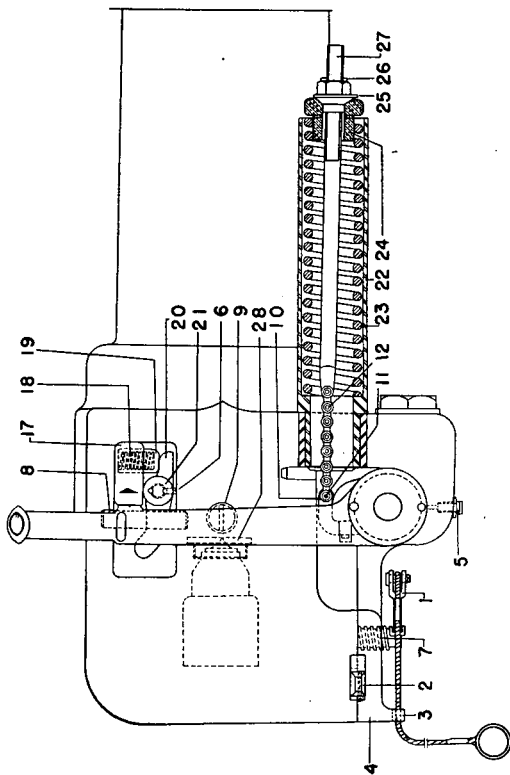
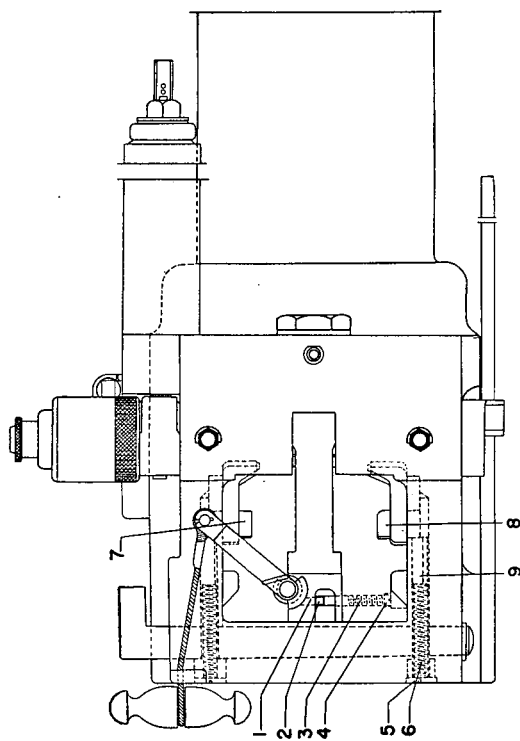
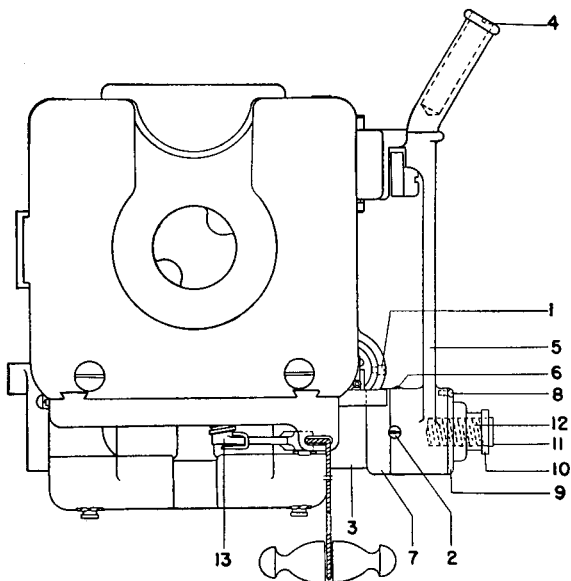
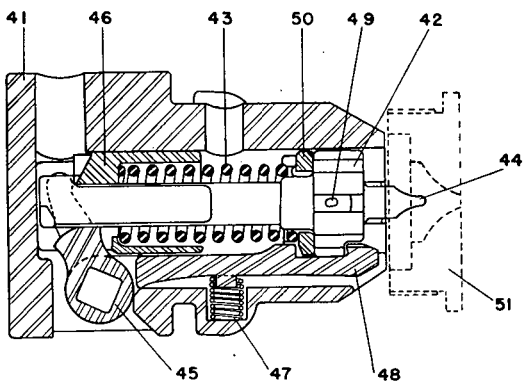

FIGURE 6.—Breech mechanism, 3-inch anti-aircraft gun M3, right side elevation.
FIGURE 7.—Breech mechanism, 3-inch antiaircraft gun M3, bottom elevation.
FIGURE 8.—Breech mechanism, 3-inch anti-aircraft gun M3, rear elevation.
FIGURE 9.—Firing mechanism, 3-inch anti-aircraft gun M3, horizontal cross section.
■ 42. LATCH PLATE (fig. 6).—Unscrew the latch bolt set screw (6) and unscrew the latch bolt (21). This will release the latch (20) and spring (18) in spring cup (19) from the latch plate.
■ 43. BREECHBLOCK.—*a.* Remove one of the cap screws from the breech lamp bracket, loosen the other cap screw, and swing the lamp assembly clear of the breech recess. Unscrew plugs (5) (fig. 7) and remove extractor springs and plungers (6) and (9). Screw an eyebolt in the top of the breechblock for use in lifting the block. Open the breech and insert a pin or punch in the opening in the spring piston rod (27) (fig. 6) at the rear face of the closing spring cylinder (22), thereby releasing the tension of the spring on the breechblock. (See note below.) Screw in the clutch (11) (fig. 8) and close the breech. Remove the cotter pin which retains the chain terminal and unhook the chain from the operating shaft.
b. Draw the trigger shaft detent (1) (fig. 7) to the left by the handle (2) and draw out the trigger shaft (13) (fig. 8). Remove the firing case (41) (fig. 9) by turning until the
locating lugs are disengaged. Remove the split pin from the lock plate key (2) (fig. 6) and drive out the key. Remove the lock plate (4).
c. Rotate the operating shaft (3) (fig. 8) as in opening the breech. When the arm of the operating shaft turns out of the breechblock, draw the shaft to the rear out of the breech ring. It may be necessary to raise or lower the breechblock slightly while removing the shaft. Lower the breechblock sufficiently to remove the extractors.
d. Raise and remove the breechblock from the breech ring. Remove the detent spring (3) (fig. 7) by first removing screw (4) holding spring. The detent (1) may then be removed.
e. The bushing (28) (fig. 6), which is screwed very tightly in the front face of the breechblock, is assembled during manufacture and will not be removed by the using service personnel.
NOTE.—If it is desired to disassemble the closing spring cylinder mechanism, do not insert pin in the spring piston rod. With breech closed unscrew piston rod nut (25) (fig. 6) and withdraw spring piston (24). The closing spring may then be removed from the front and the spring piston rod from the rear.
■ 44. FIRING CASE.—*a.* With the firing case assembly withdrawn from the breechblock as explained in paragraph 43, insert a screw driver in small hole in the firing case and push the trigger fork (45) (fig. 9) from the case.
b. Remove the firing pin holder assembly (42) by pressing the sear (48) against the spring (47) with a finger at the front of the case, and by pushing the entire firing pin holder assembly from the rear with the fingers of the other hand.
c. Remove the sear (48) and the sear spring (47).
■ 45. FIRING PIN HOLDER ASSEMBLY.—*a.* Separate the holder (42) (fig. 9) from the sleeve (46) by pressing inward on the end of the firing pin holder, thus disengaging the irregularly formed end of the firing pin holder from the beveled surface on the inside of the sleeve. The sleeve should then slip off under the action of the spring.
c. Remove spring stop (50) and the cotter pin (49) from the holder (42), and unscrew the firing pin (44) from the firing pin holder (42).
■ 46. OPERATING HANDLE AND OPERATING SHAFT.—Unscrew the clutch lock (10) (fig. 8) to disengage the clutch from the shaft, and remove retaining ring lock screw (2). Unscrew the retaining ring (7) from the operating shaft (3) and remove the operating handle assembly. Unscrew retaining ring from the operating handle hub. Remove the clutch lock bearing lock screw (8) and unscrew the bearing from the handle hub. The method of disassembling the remaining parts needs no explanation.
■ 47. FIRING PIN HOLDER ASSEMBLY.—*a.* Insert the firing pin (44) (fig. 9) into the firing pin holder (42) until it fits tightly against the shoulder. Insert the cotter pin (49) through the holder and spread the ends to clear the firing case bore. Assemble spring stop (50) and firing spring (43) on the firing pin holder (42). Place the firing pin holder sleeve (46) over the firing spring and firing pin holder, and force it against the spring until the beveled surface on the
■ 48. **FIRING CASE.**—*a.* Turn the spring stop (50) (fig. 9) on the firing pin holder (42) until the flat edges of the fork are in a plane parallel to that of the flat surface at the forward edge of the firing pin holder. Failure to do this will make it almost impossible for the forward end of the sear (48) to engage the firing pin holder (42) as shown in the diagram of the assembled mechanism.
b. Insert the sear spring (47) into its seat inside the firing case (41). Insert the sear (48) into the case, placing the stud on the bottom of the sear into the sear spring (47). With the finger hold the rear end of the sear (48) up, and with the other hand insert the firing pin holder assembly about halfway into the case. Then press the rear end of the sear down and push the firing pin holder assembly fully into the case.
c. Insert the trigger fork (45) into the opening in the side of the case, with the rounded projections on the fork ends toward the front of the case, in which position the ends rest against the rear face of the firing pin holder sleeve (46). Push the trigger fork in as far as it will go, slapping it with the palm of the hand if necessary.
■ 49. **BREECHBLOCK.**—*a.* Assemble the trigger shaft detent (1) (fig. 7) into the detent hole in the lower left-hand side of the block. As the detent passes into the slot in the bottom of the block, slip the detent handle (2) over the small diameter of the detent up to the shoulder. Place the detent spring (3) in the hole and insert screw (4).
■ 50. OPERATING HANDLE.—*a.* The grip position is made hollow to reduce its weight, the hole in the end being closed by screwing in the handle plug (4) (fig. 8). The oil cup (6) is pressed into the hub of the handle. These parts are assembled during manufacture and are not intended to be removed.
b. Screw the clutch lock (10) (fig. 8) through the clutch spring (12) into the clutch (11), and insert them into the handle, locating the key and keyway together. Now screw the bearing fully into the handle. Locate the nearest hole in the bearing directly over the tapped hole in the handle hub, and secure the bearing with the clutch lock bearing lock screw (8).
■ 51. OPERATING SHAFT.—Slide the operating handle assembly on the operating shaft, pushing it on until the projections on the shaft pass through the openings in the retaining ring (7). Retain the handle on the shaft by screwing the retaining ring fully against the shoulder, and insert the retaining ring lock screw (2). The lock screw should seat in the depressions in the ring and handle. Screw the clutch lock fully to the right to engage the clutch with the shaft.
b. Place the extractors (7) and (8) (fig. 7) in position in the breech recess, and press upward from the bottom so that they lie flat against the face of the breech.
f. With the breech open, insert the extractor plungers (9) (fig. 7) in the holes in the breech face, small end of the plunger to the rear, followed by the extractor plunger springs. Screw plugs (5) in position.
g. Attach the chain terminal to the operating shaft. (In case the closing spring assembly has been disassembled, place the closing springs (23) (fig. 6) in the closing spring cylinder (22). Insert the spring piston rod (27) through the spring and spring cylinder from the rear end and attach the chain terminal to the operating shaft. Place the spring piston (24) on the rod and screw the piston rod nut (25) on the rod until the end protrudes through the nut about $\frac{3}{4}$ inch.)
h. Close the breech and insert the trigger shaft (1) (fig. 6), first placing the spring (7) in position on the trigger shaft. Press the trigger shaft detent handle to the left to allow the trigger shaft to enter, and then allow the detent (1) (fig. 7) to move back into the annular groove in the shaft.
■ 53. LATCH PLATE (fig. 6).—Place the latch spring (18) into the spring cup (19), and hold the parts in position in latch plate (17). At the same time assemble the latch (20) in the plate by forcing the boss on the latch into its seat in the latch plate, holding it in position until the latch bolt (21) can be entered several threads. Screw the latch bolt (21) home and insert the latch bolt set screw (6).